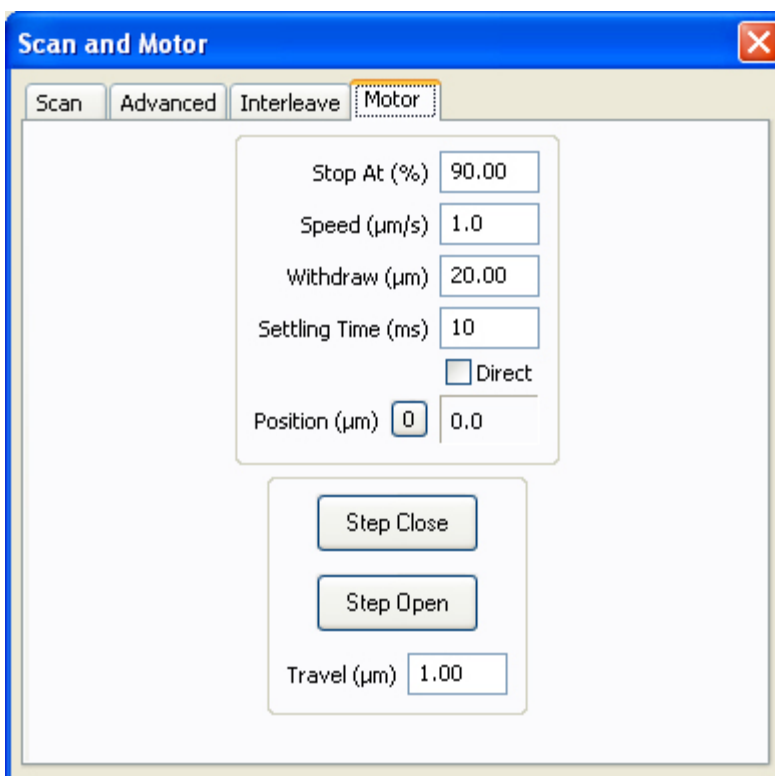

Figure 83 Set the Stop At value in the Scan and Motor window
- 16 In the Scan and Motor window, click the **Motor** tab (Figure 83).